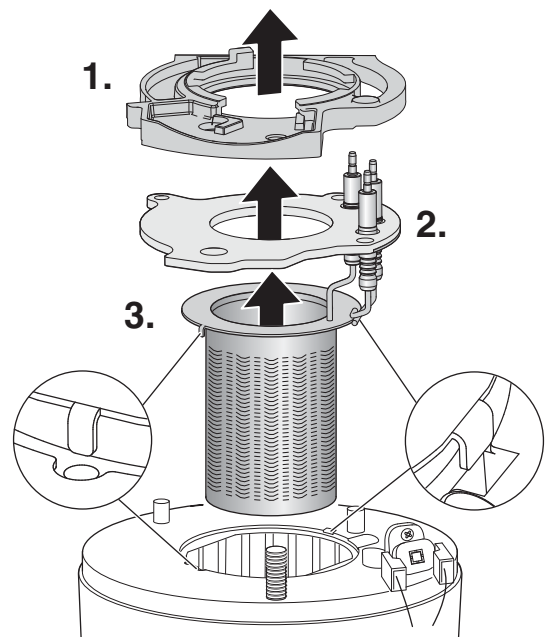

Fig. 80 Electrode assembly and burner
- Refer to figure 80 and disconnect spark electrodes and flame sensor connection.
- Ensure that burner tabs, as shown in figure 80, fit correctly their respective locations.